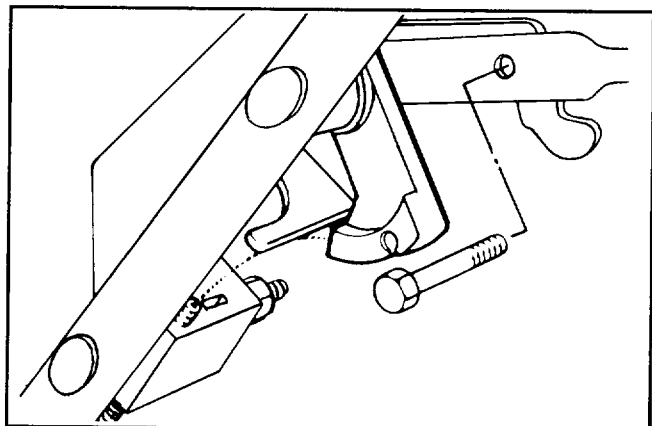

Figure 4
8. Secure control lever to control bar with a capscrew and locknut (Fig. 4).